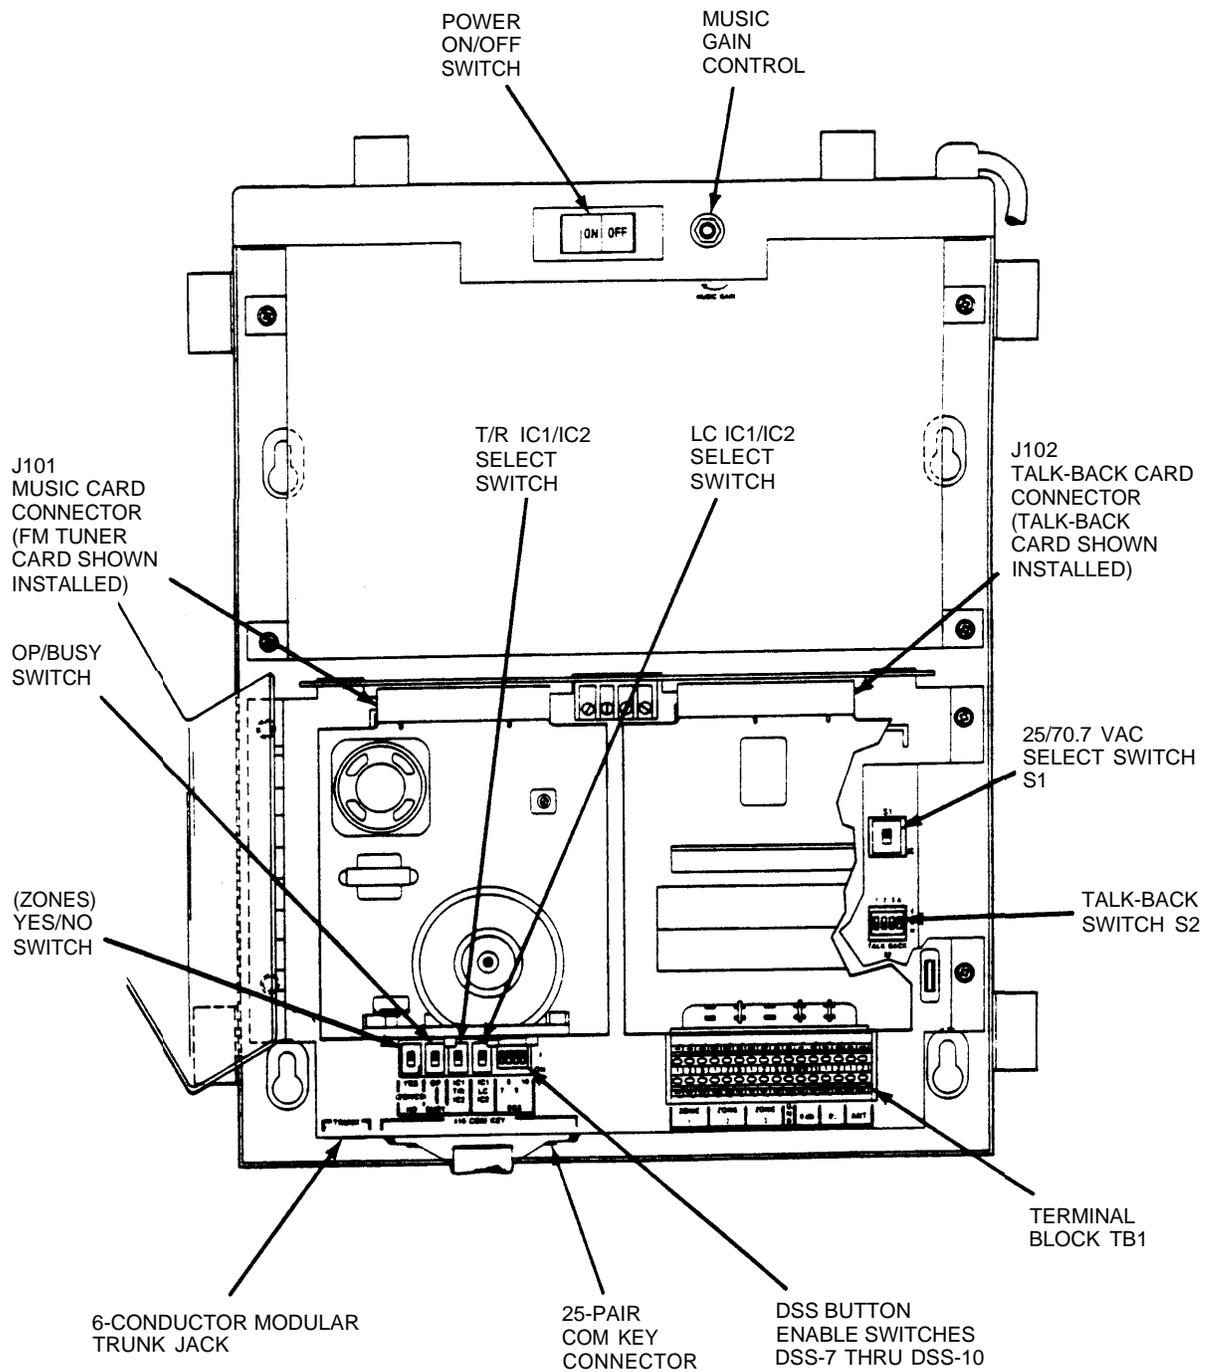

Figure 1-2. PagePac VS Connectors, Switches, and Controls (Cover Removed)
Figure 1-2 shows the location of the PagePac VS connectors, switches, and controls. A description of their purpose and function follows.
3. Set DIP switch S2 (Figure 1-2) for zones in which talk-back is to be enabled. For example, if Zone 1 is to have talk-back, set switch S2-1 to ON.